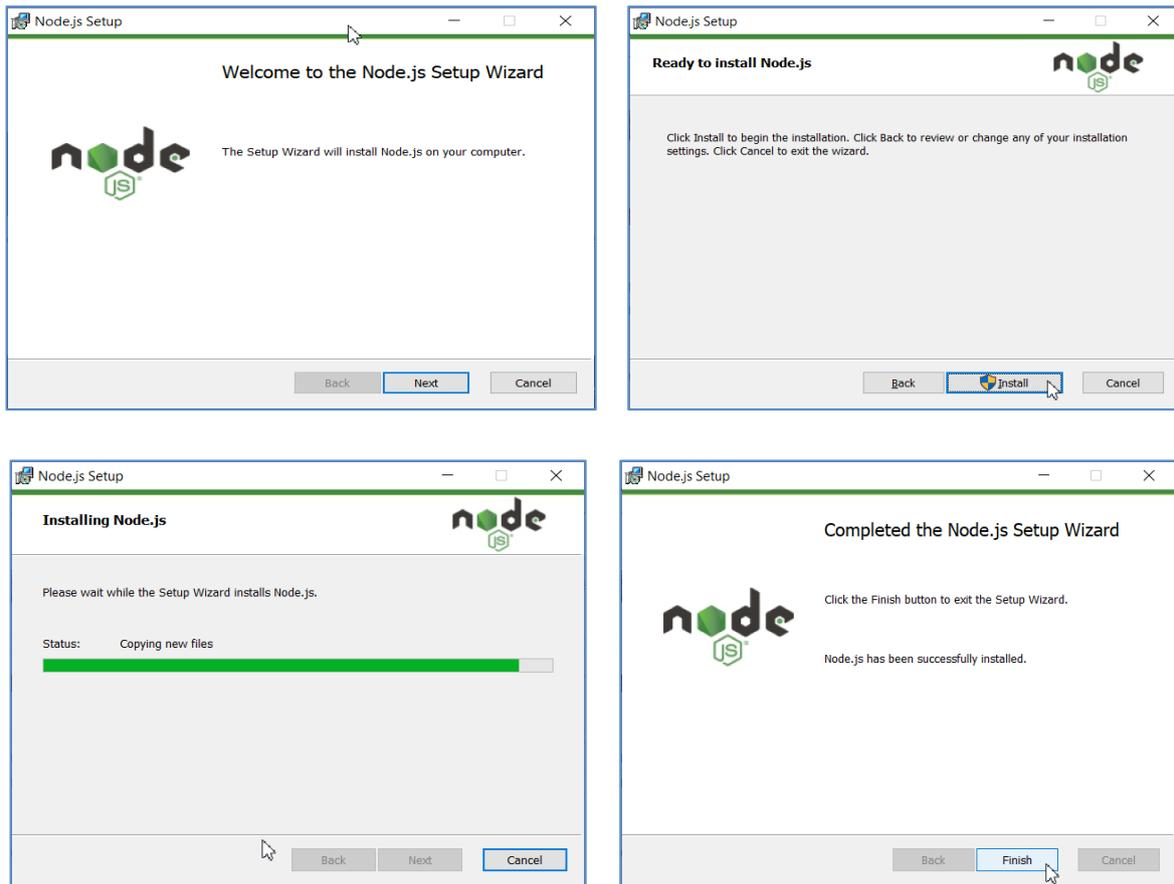

Figure A2
2. Once downloaded, double-click the installer and follow the installation steps by default options, until the installation is completed and click **Finish** button to close the installation wizard (Figure A2).